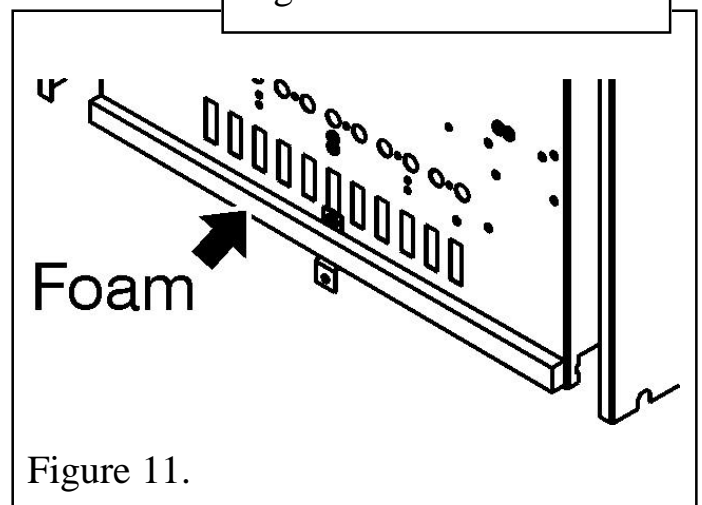

Figure 11.
3. Supplied with the heater is a length of self-adhesive foam strip. Remove the backing paper and locate the foam strip along the bottom of the heater as in figure 11. This foam strip prevents light from the rear of the heater showing below the heater.